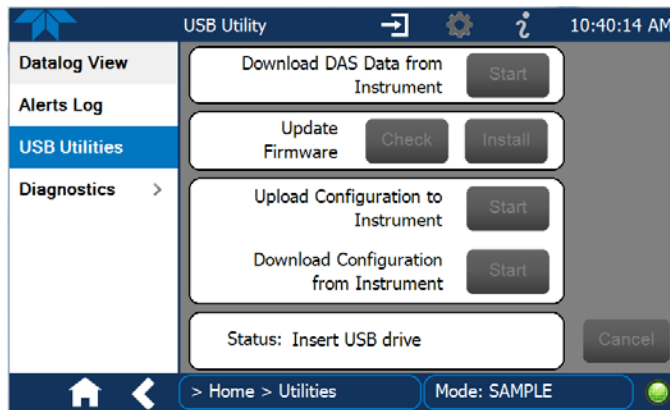

Figure 2-40. USB Utility Page
1. Press USB Utilities menu to open the utility page (Figure 2-40).